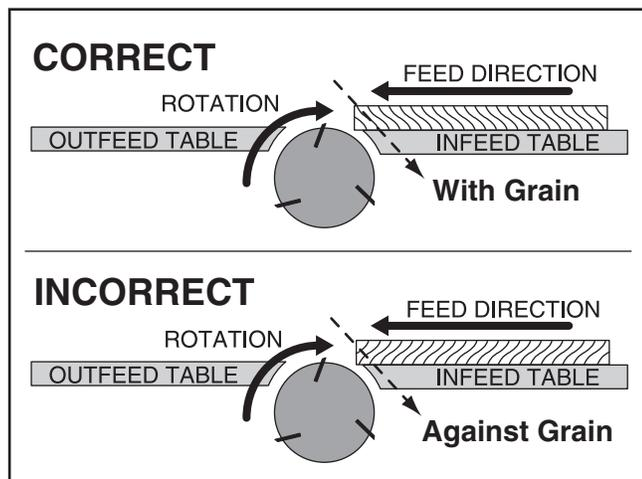

Figure 38. Proper grain alignment with the cutterhead.
- **Jointing and surface planing with the grain is safer for the operator and produces a better finish.** Cutting against the grain increases the likelihood of kickback and workpiece tear-out. DO NOT cut against the grain! Cutting with the grain is feeding the stock across the cutterhead so the grain points down and back, as viewed from the front edge of the stock (see **Figure 38**).